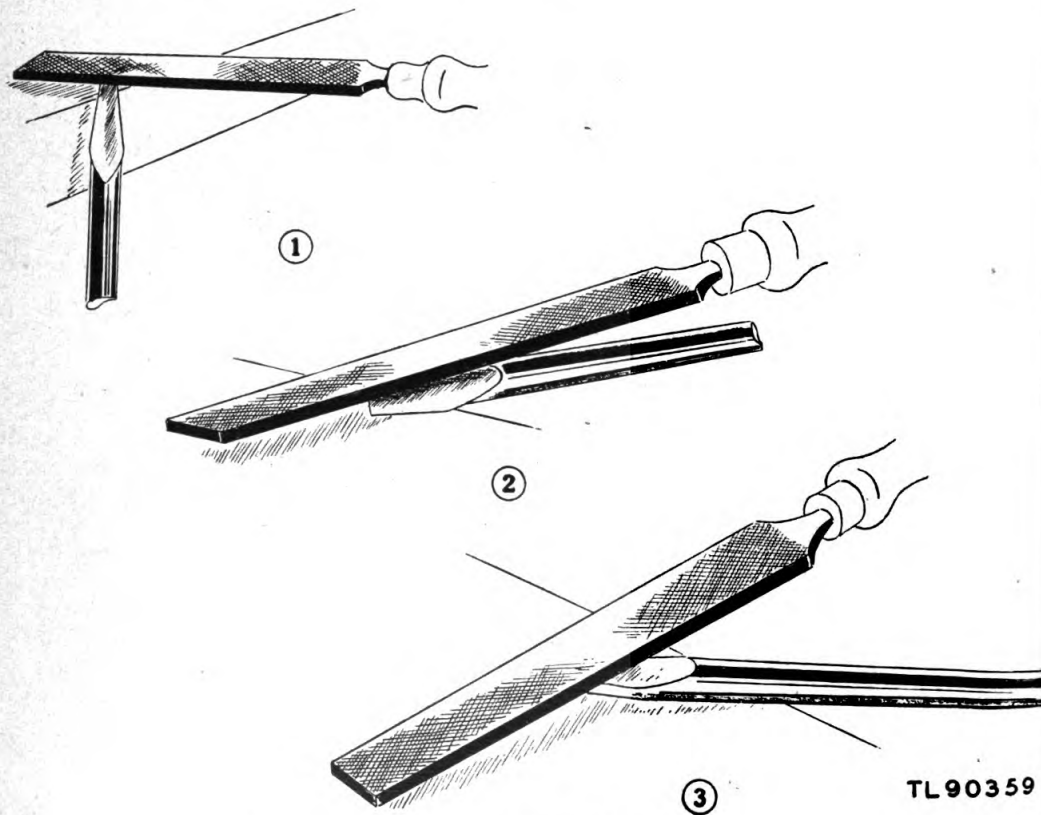

Figure 5 (Added.)
horizontal position (fig. 5②). The upper edge of the blade
To bevel the flat surfaces of the blade (fig. 5③), follow the